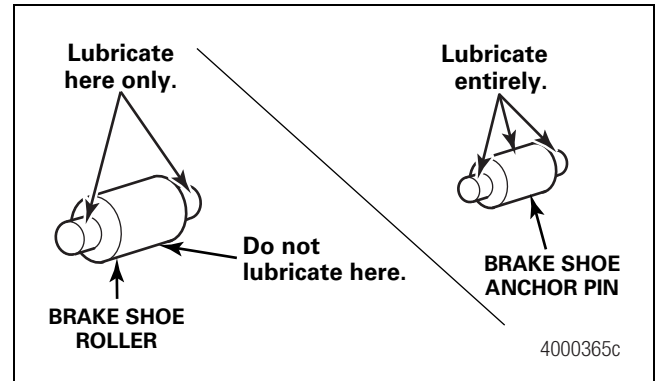
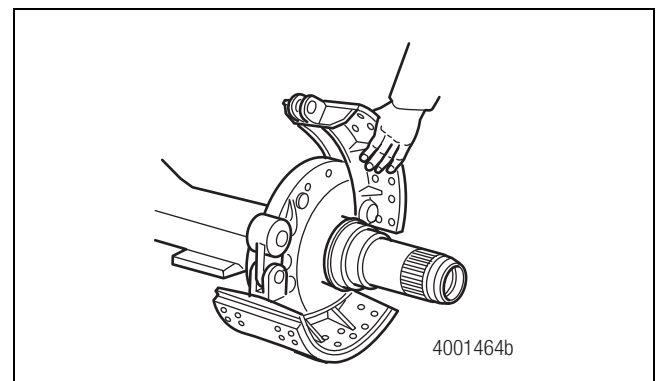

Figure 4.17
Figure 4.18
When the brake is disassembled, or when necessary, lubricate the anchor pins and rollers. Figure 4.17 and Figure 4.18.
2. If necessary, ream the inside diameter (ID) of the bushing to 1.254-1.257-inch (31.85-31.93 mm) diameter (maximum).
3. Install the new brake shoe rollers. Place the brake shoes into position on the spider. Figure 4.17 and Figure 4.18.